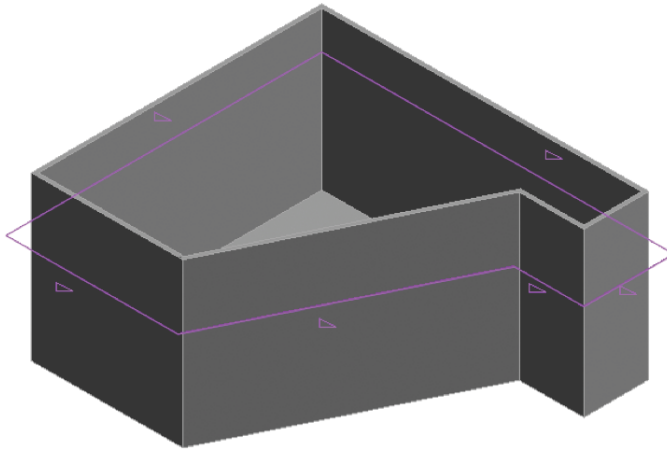

FIGURE 3.25 Offsetting the roof sketch and defining slopes
4. Select the Defines Roof Slope option for all the boundary edges from the Properties palette. Also modify the Slope property for a slope of 9" / 12" (750 mm / 1000 mm). The roof should look like Figure 3.25.